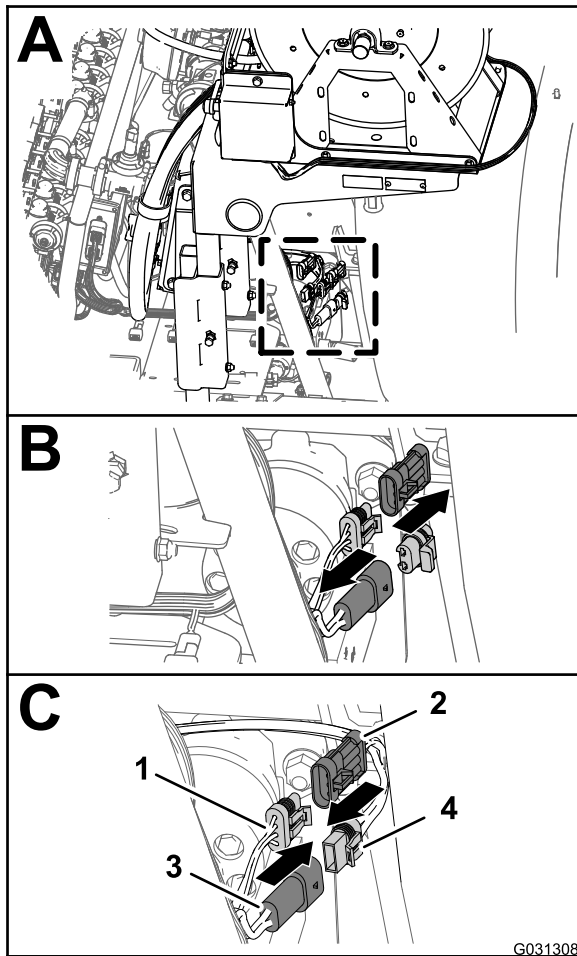

Figure 189
1. At the back of the machine, locate the wire harness for the pivoting hose-reel kit at the back of the sprayer tank (Figure 189).
2. Remove the plug from the 2-pin connector of the rear, main harness for the hose-reel power (Figure 189).
3. Connect the 2-socket connector of the harness for the electric-hose reel into the 2 pin connector of the rear, main harness (Figure 189).
4. Remove the cap from the 3-socket connector of the rear, main harness for the spray-harness interconnect (Figure 189).
5. Connect the 3-pin connector of the harness for the electric-hose reel into the 3 pin socket of the rear, main harness (Figure 189).